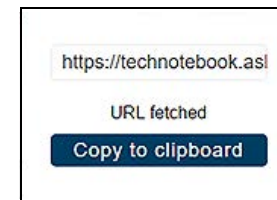

Figure 14-14
3. Select **Copy to Clipboard** (*Figure 14-14*) from the pop-up window.
The Favorites screen displays all the reports selected as favorites (Figure 14-14).